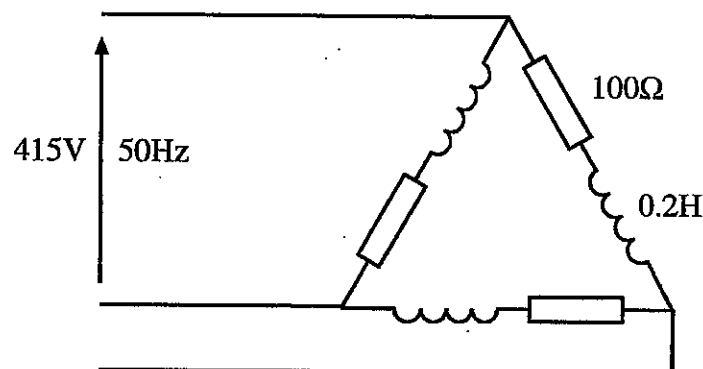

Fig Q5
5. In the delta connected load shown in Fig Q5 each coil has a resistance of  $100\Omega$  and an inductance of  $0.2H$ .